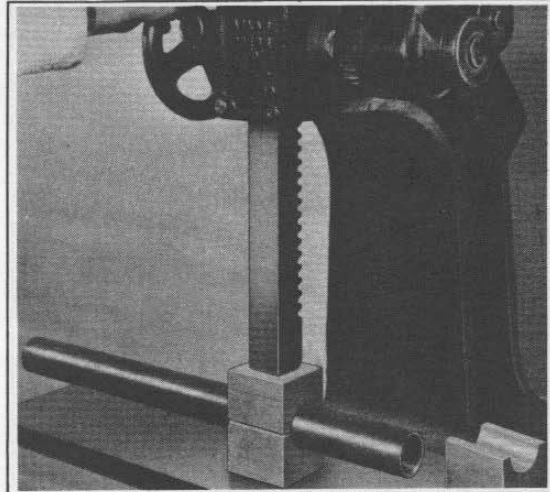

Figure 2-32. Pressing Fork Tube Round
3. Sometimes fork tubes are out-of-round, especially at the point it is clamped in the fork bracket. Place tube in straightening blocks and press until perfectly round as shown in figure 2-32, checking with dial indicator and micrometer. Finally, check tube by inserting in new fork slider. Work tube up and down. If it does not bind, it is straight.